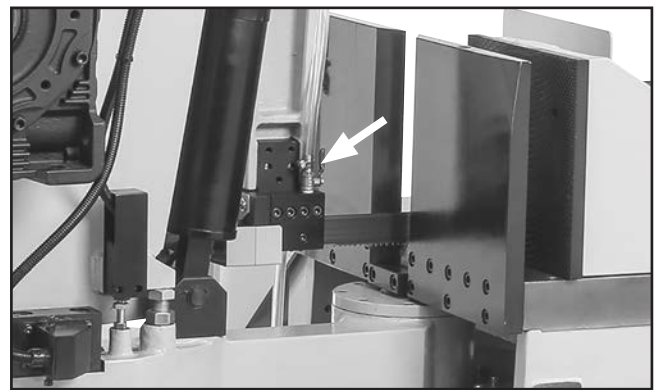

Figure 43. Coolant valve (1 of 3) opened.
1. Open coolant valves (see **Figure 43**).